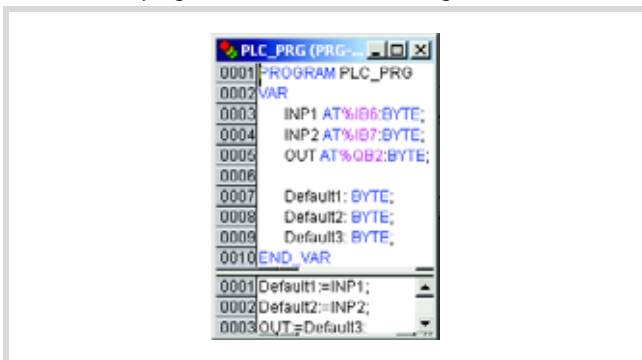

Figure 88: User program for XC200
► Create the program in accordance with Figure 88.